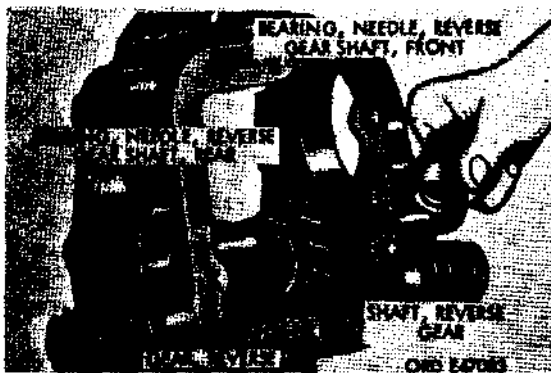

Figure 293. Removing reverse gear and shaft
- (b) Use a soft hammer and tap reverse gear shaft at splined end to front of case. Remove reverse gear and reverse gear thrust washers (RR end PP, fig. 295) from case. Reverse gear shaft front needle bearing (fig. 293) will be removed as reverse shaft is pressed from case. Use suitable adapter and remove reverse gear shaft rear needle bearing from case.